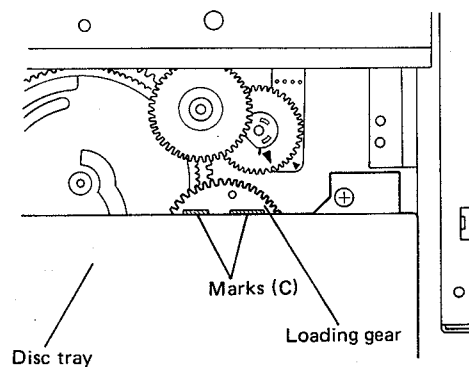

Fig. 14
7. With the disc tray in the fully open position, check that the marks (C) on the loading gear are parallel with the rear edge of the disc tray. (Fig. 14)